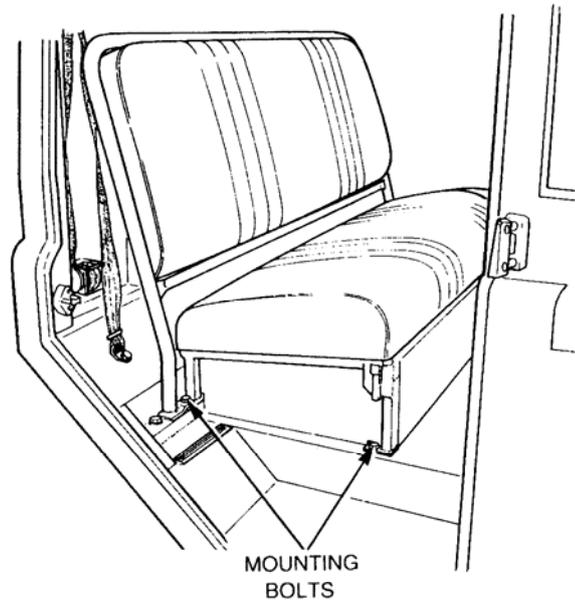

Figure 7 Rear Seat Frame Mountings
- a. Remove the two nuts, flat washers, bolts and spring washers securing the front feet of the seat frame to the crossmember (refer Figure 7).
- b. Remove the two nuts, flat washers, bolts and spring washers securing the rear legs of the seat frame and the rear seat squab frame to the crossmember (refer Figure 7).